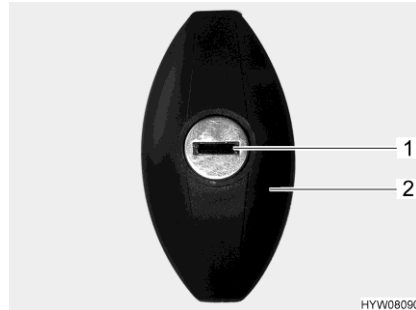

Fig. 61 Flap lock
- Insert key into locking cylinder (Fig. 61,1) and turn one half turn in an anticlockwise direction. The lock handle (Fig. 61,2) snaps out.